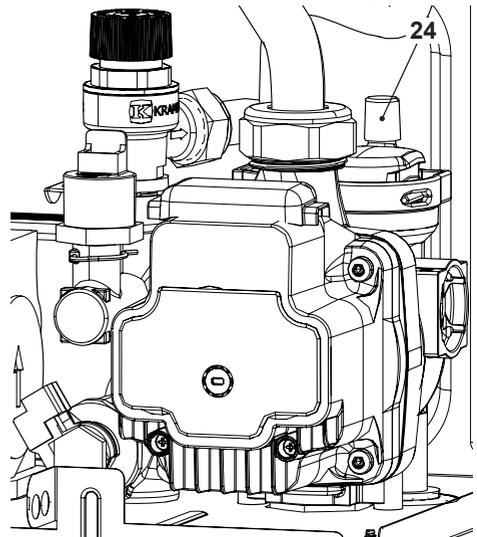

Figure 9.5
- To make draining easier, unscrew the automatic bleed valve cap 24 in Figure 9.5.